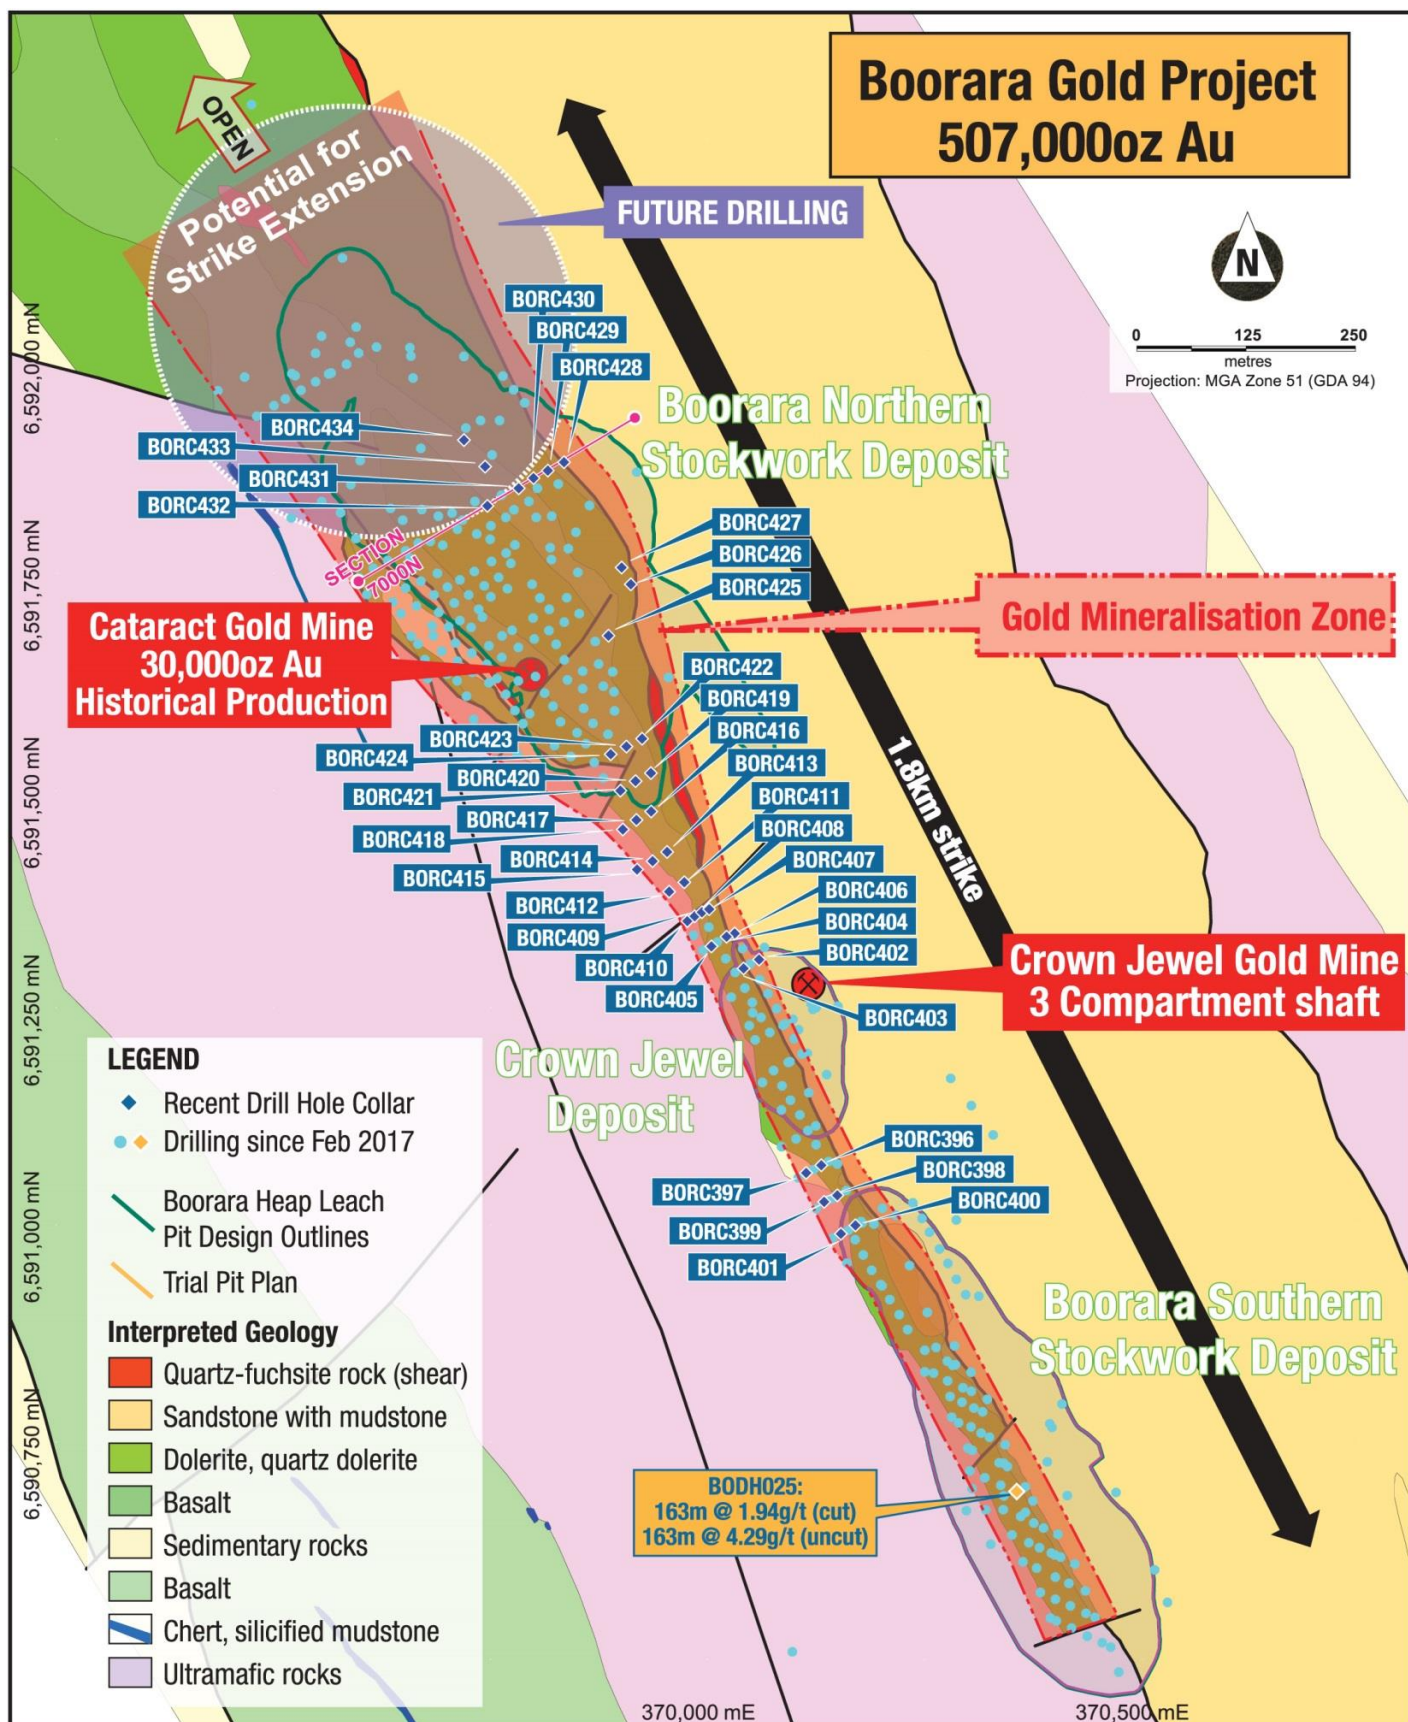

Figure 3: Plan view of Boorara drill holes with interpreted geology.
Reverse Circulation (RC) drilling at Crown Jewel and Northern Stockwork continues to intersect significant gold results along strike (see figure 3).
These latest gold results relate to 39 RC drill holes (BORC 396-434) for a total of 5,177 metres that extend from north of the Southern Stockwork (SSW) deposit to the Crown Jewel Deposit and north to the Northern Stockwork (NSW) deposit (see Table 1, Figure 3).